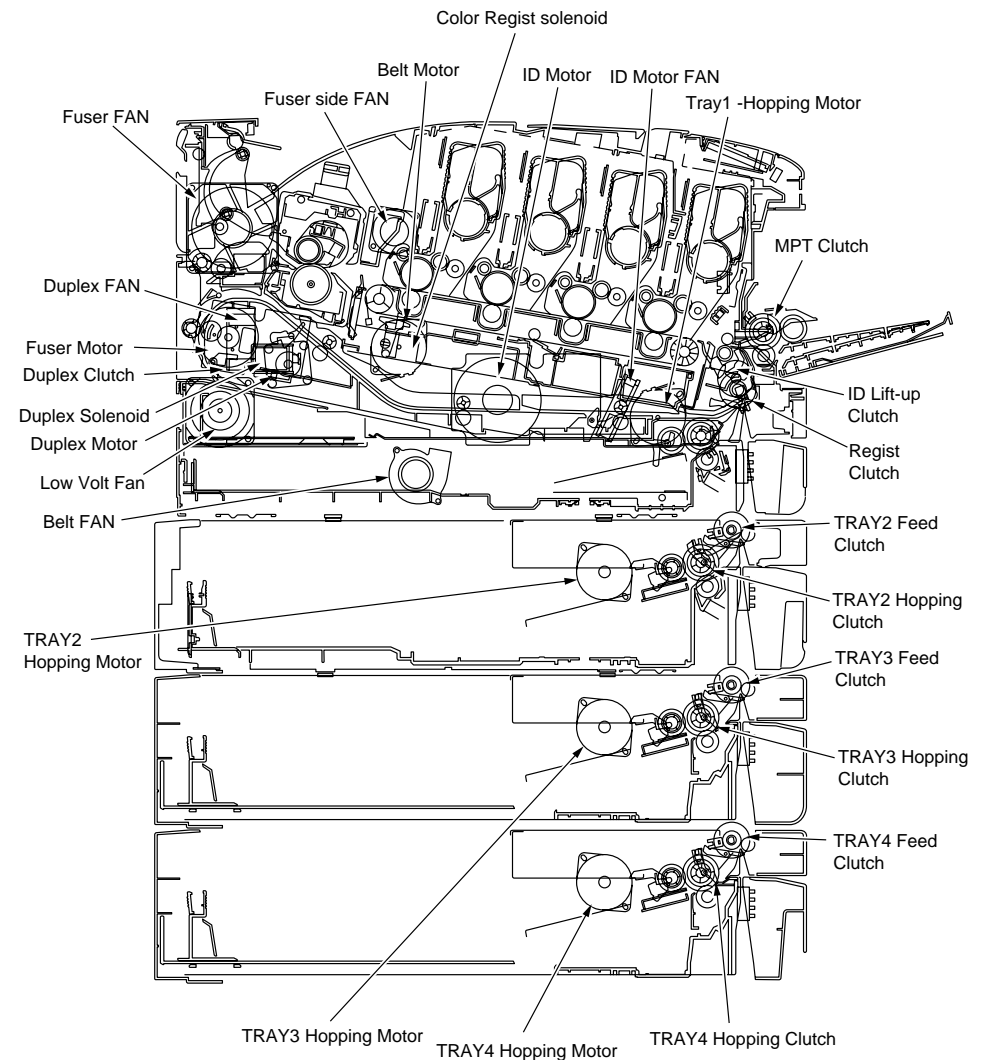

Figure 6-2
3. Press the **ENTER** button. The motor and clutch test starts, the unit's the name and current status starting to blink, and the unit being driven for ten seconds (refer to figure 6-2).